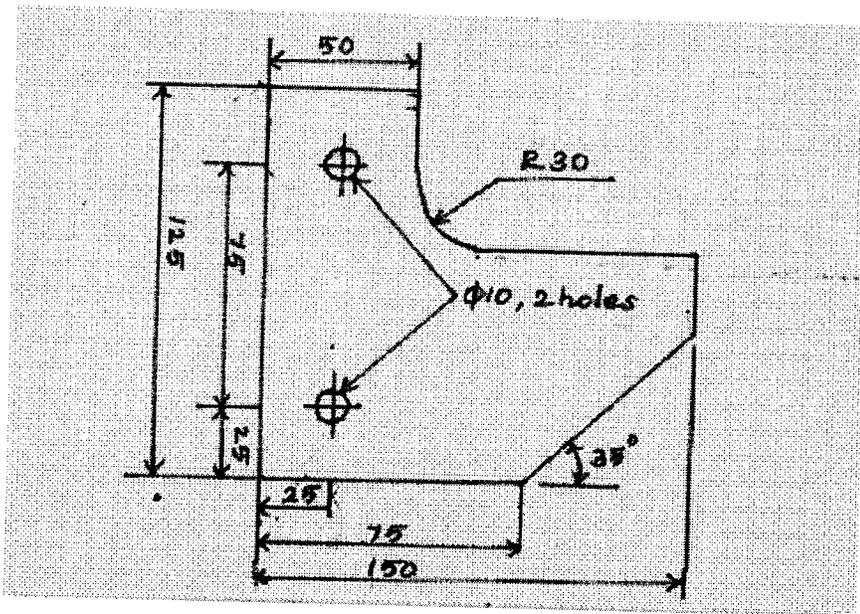

FIG 1
- a) Write the complete APT part program to perform the profile milling operation for the part drawing in FIG 1. Tooling =20mm diameter end mill with two teeth, cutting speed =125mm/min. and feed = 0.10mm /tooth. The part is 10mm thick. Use the lower left corner of the part as the origin in the x-y axis system.